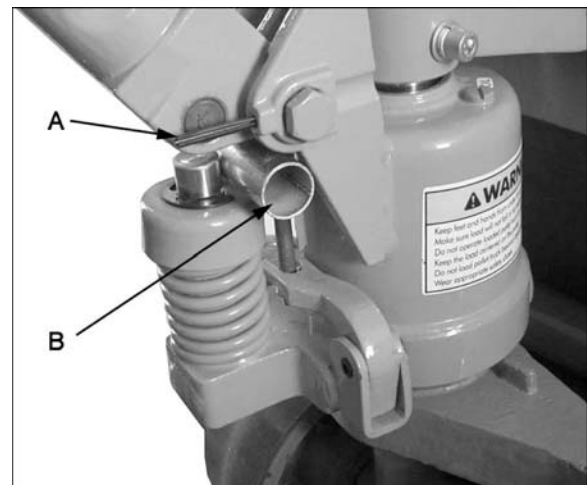

Figure 4
6. Using a hammer, tap the spring pins (A, Figure 4) into the pump bracket and handle pins.
8. Pull handle down and remove retaining tube (B, Figure 4) by pulling straight out. Discard retaining tube.